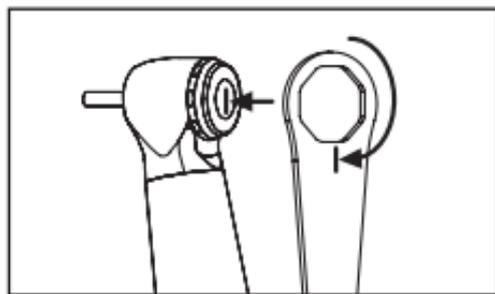

Fig. 34
- 8 Tighten it firmly with the head cap wrench (Fig. 34).